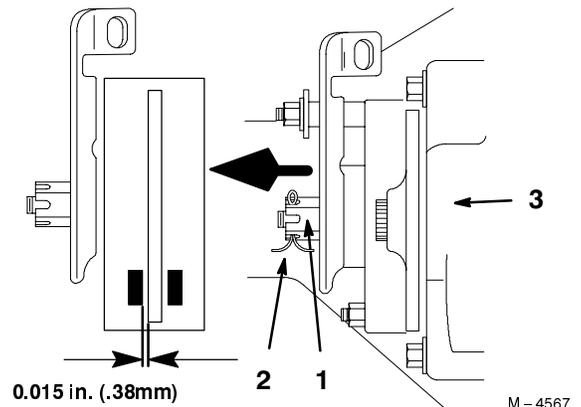

Figure 27
3. To adjust the brake remove the cotter pin and loosen the brake adjusting nut slightly (Fig. 27).
4. Carefully insert a 0.015" (.38 mm) feeler gauge between the outer brake pad and rotor disk (Fig. 27).